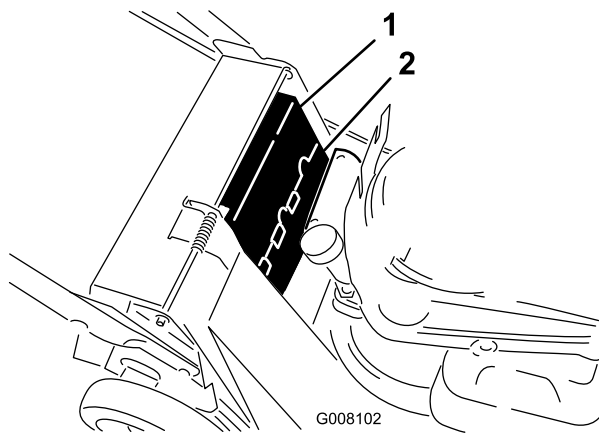

Figure 29
6. Remove the upper and lower belt covers (Figure 29).